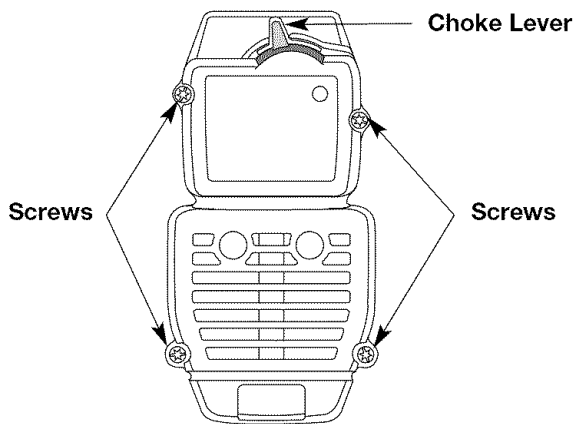

Fig. 13
NOTE: The choke lever must be in Position 2 (Fig. 13) to remove the air filter/muffler cover.
2. Remove the four (4) screws securing the air filter/muffler cover (Fig. 13). Use a flat blade or T20 Torx bit screwdriver.
3. Insert the four (4) screws into the holes in the air filter/muffler cover (Fig. 13) and tighten. Use a # T20 Torx bit screwdriver. Do not over tighten. Do not force.